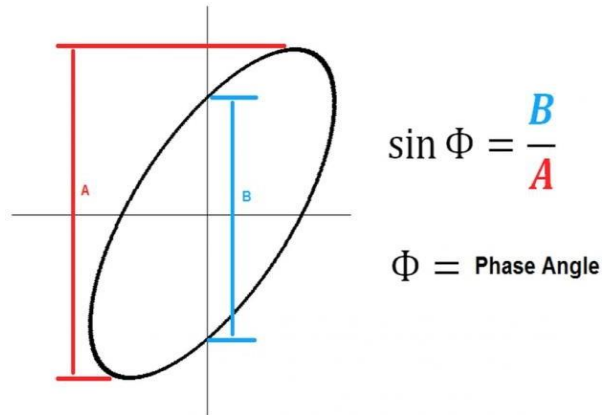

Figure 5 Measurement of phase shift from CRO.
- 4) Note down the values of A and B from the ellipse on the CRO screen as shown in fig.5
- 5) Calculate phase shift using the following expression Phase shift $\phi = \sin^{-1}(B/A)$ (refer fig.5)